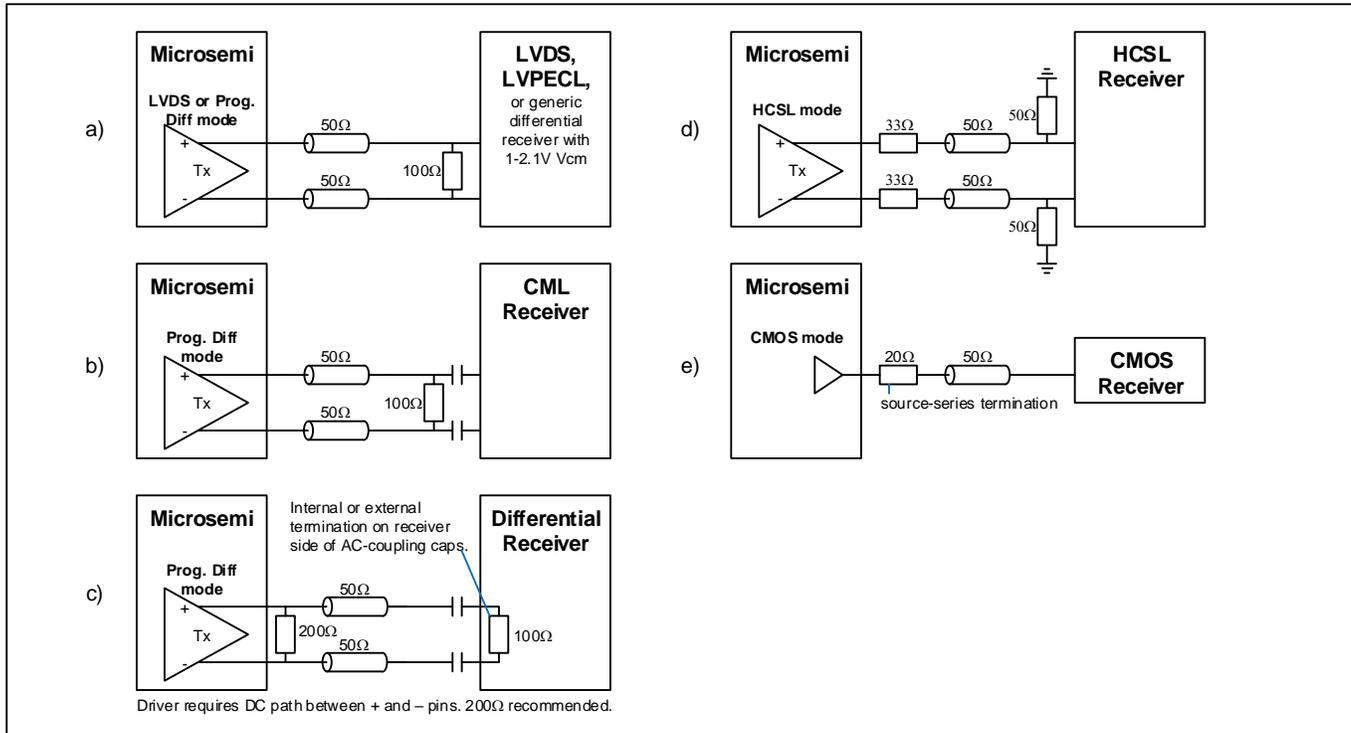

Figure 17 - Example External Components for Output Signals
**Note 1:** OCxCR2.OCsf=0001 (LVDS). Output must have 100Ω DC path between OUTxP and OUTxN to meet these  $V_{OD}$  specs. See Figure 17 parts a) and b) for examples where this DC path is a 100Ω termination resistor at the receiver.
**Note 1:** OCxCR2.OCSF=0010, OCxDIFF.VCM=1100, OCxDIFF.VOD=0101. Output must have 100Ω DC path between OUTxP and OUTxN to meet these  $V_{\text{OD}}$  specs. See Figure 17 parts a) and b) for examples where this DC path is a 100Ω termination resistor at the receiver.
Figure 17 part c) covers the case where an existing receiver has AC coupling caps followed by an internal or external 100Ω termination resistor. The driver requires a DC path between its POS and NEG pins even in this case. A 200Ω resistor is recommended. Since this arrangement attenuates the signal by one third, The `OCxDIFF.VOD` field should be set 50% higher to compensate.